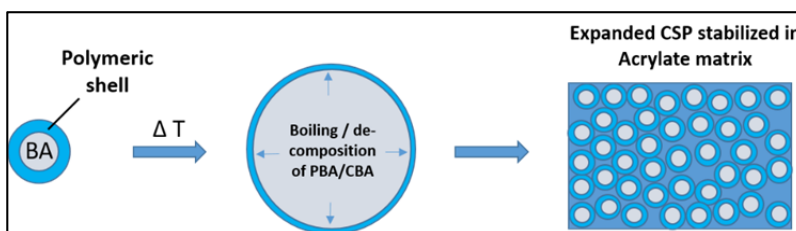

Figure 1: Expansion of CSP through heat input.
Printing of foamable inks with PolyJet technology opens a promising way to produce light-weight three dimensional objects. In PolyJet printing, liquid photopolymer droplets are jetted, which are UV-cured immediately afterwards, building up a 3D object layer by layer. To date, 3D printing of foams requires several working steps, like fused filament fabrication and subsequent leaching in water yielding soft foams [1]. In contrast, printing foamable inks with PolyJet is a novel approach enabling the fabrication of pressure-stable foams in one step. The foamable ink is produced by suspending core-shell-particles (CSP) in a proper acrylate matrix. The CSP consist of a blowing agent (BA) surrounded by a polymeric shell [2]. Foaming starts after heat input, e.g. near-infrared irradiation, expanding the CSP through boiling of the BA. To yield a stable foam, the acrylate matrix is UV-cured immediately afterwards, stabilizing the expanded CSP (Figure 1).